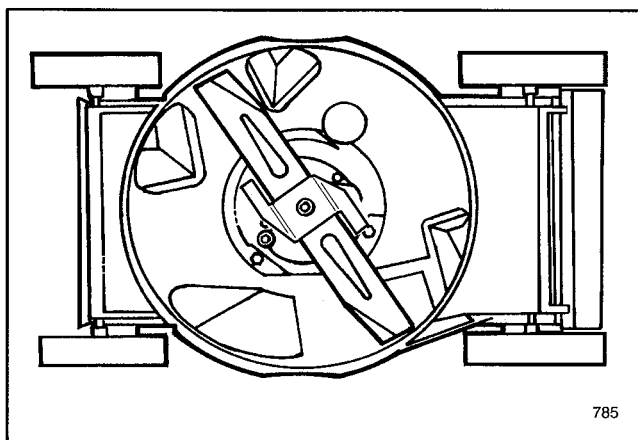

Figure 19
To ensure best performance, keep underside of mower housing clean. Be especially careful to keep kickers free of debris (Fig. 19).
3. Tip mower on its right side (Fig. 19).